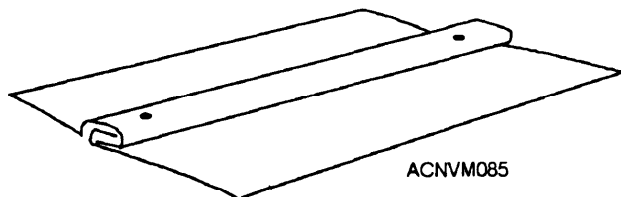

Figure 12-85.—Grooved seam locked with prick-punch indentations.
7. Secure the seam in position by making prick-punch indentations about 1/2 inch in from each end of the seam, as shown in figure 12-85.